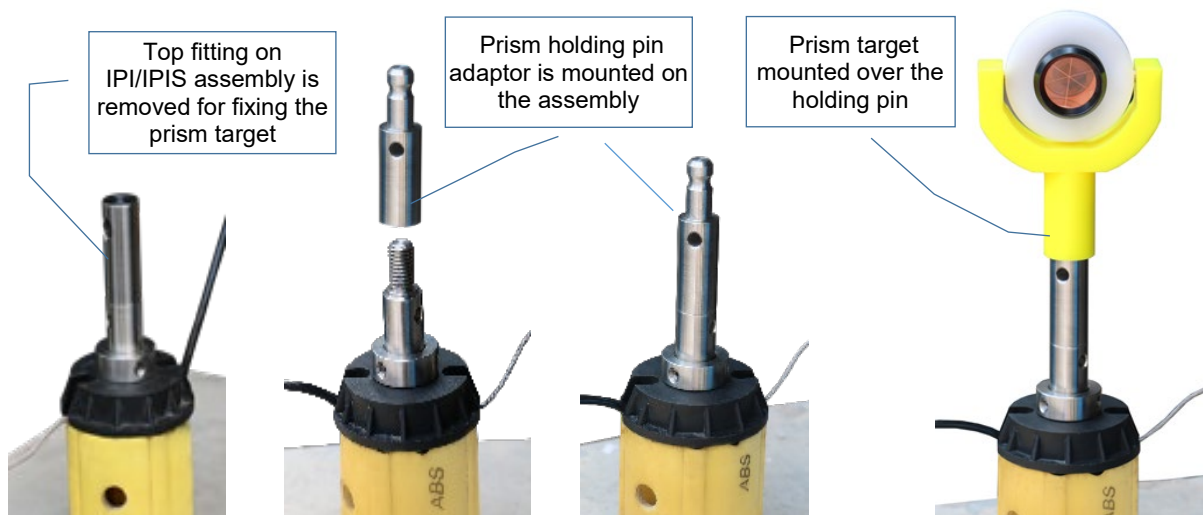

Figure 1-1 Prism target mounting accessories suitable for taking X-Y coordinates for IPI
Determine initial Northing (X) and Easting (Y) positions of casing top by surveying after the inclinometer casing is set. For this purpose a prism assembly with holder pin can be used for model EAN-AT-70 inclinometer casing. ERT-10P2 prism target can be directly mounted on the suspension bracket (which is an integral part of the IPI), with a precision prism holding pin adaptor, as shown in figure 1-1.